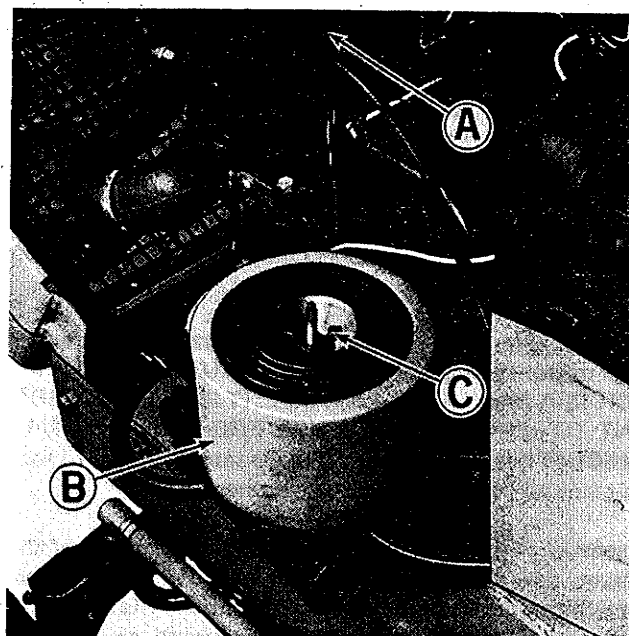

Figure 21. Air cleaner with cover removed on left side of engine.
See figure 21. All grass and chaff should be removed from the engine fins (A). **CAUTION: THE ENGINE FINS ARE VERY HOT AFTER THE ENGINE HAS BEEN OPERATED. DO NOT TOUCH THEM UNTIL THE ENGINE HAS BEEN ALLOWED TO COOL. NEVER SPRAY WATER ON A HOT ENGINE.**
2. See figure 21. Remove the foam pre-cleaner (B) and wash it in liquid detergent and water and squeeze dry.
4. Install the foam pre-cleaner as shown in figure 21.
The engine air cleaner is made up of two types of filters. The foam filter (Figure 21, item B) and a dry filtering element. The foam element should be cleaned and oiled every 25 hours as explained under the Every 25 Hour Maintenance Services. Once a year or every 100 hours, whichever occurs first, the paper element should be removed and cleaned or
2. See figure 21.. Remove the foam element (B) and clean and oil it as described in the Every 25 Hour Maintenance Service.
3. Remove wing nut (C) and remove the paper element from the air cleaner.
5. See figure 21. Replace the paper element and wing nut (C) and tighten it securely.
6. Install the foam element (B) over the paper element as shown in figure 21.